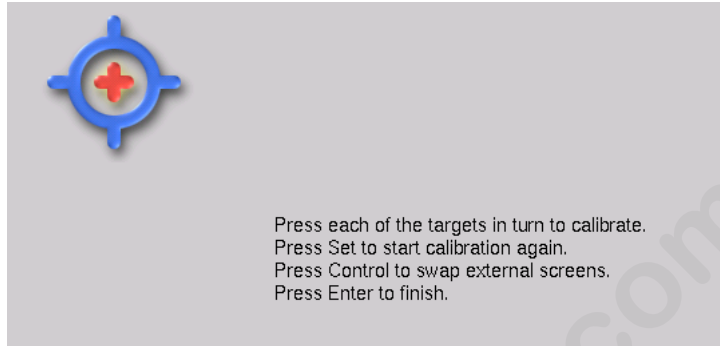

Figure 6.4. The Calibration Screen
2. A target will appear sequentially in each corner, which you should touch in turn; see *Figure 6.4*, “The Calibration Screen”. When you have calibrated all positions, press Enter to finish.